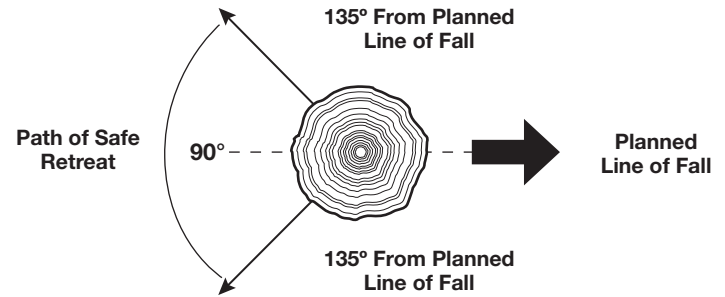

Fig. 7
- Determine a safe and expedient escape route. Clear the area around the tree and make sure there are no obstructions blocking the escape route. Establish a 90° corridor of escape, approximately 135° from the line of fall (Fig. 7).